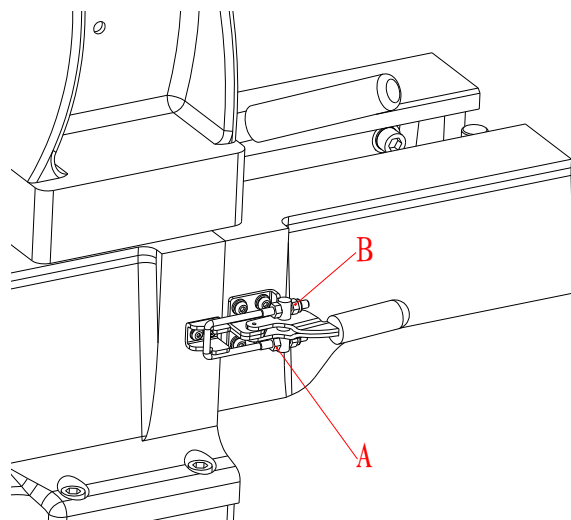

Fig.12
- 8, Mount clamping device on both lathe and extension bed as shown on Fig.12.